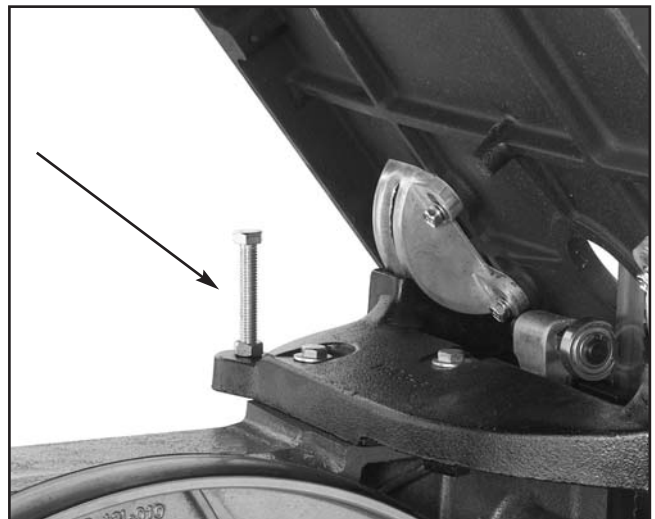

Figure 21. Positive stop location/installation.
5. The Model G1012 includes a positive stop bolt for quick table adjustments. Locate the $\frac{3}{8}$ "-16 x 3" hex bolt from your hardware bag and thread it into the trunnion casting as shown in **Figure 21**. Use a $\frac{3}{8}$ "-16 hex nut from the hardware bag to lock the bolt in place.